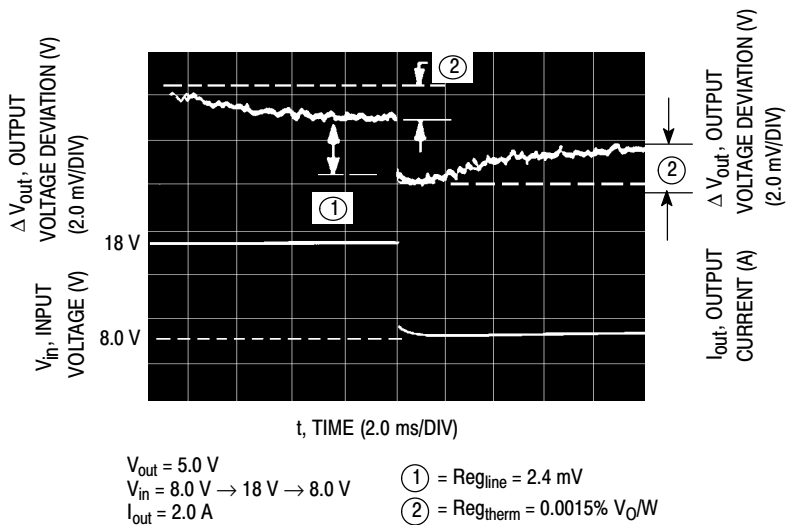
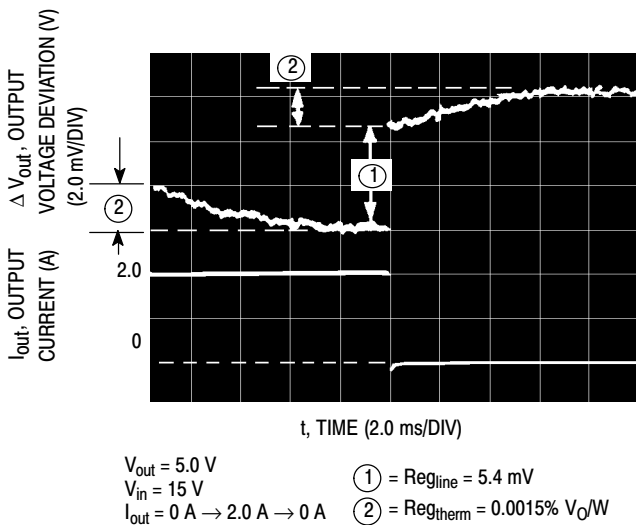

Figure 1. Line and Thermal Regulation
Figure 2. Load and Thermal Regulation
Figure 1 shows the line and thermal regulation response of a typical LM323A to a 20 W input pulse. The variation of the output voltage due to line regulation is labeled ① and the thermal regulation component is labeled ②. Figure 2 shows the load and thermal regulation response of a typical LM323A to a 20 W load pulse. The output voltage variation due to load regulation is labeled ① and the thermal regulation component is labeled ②.